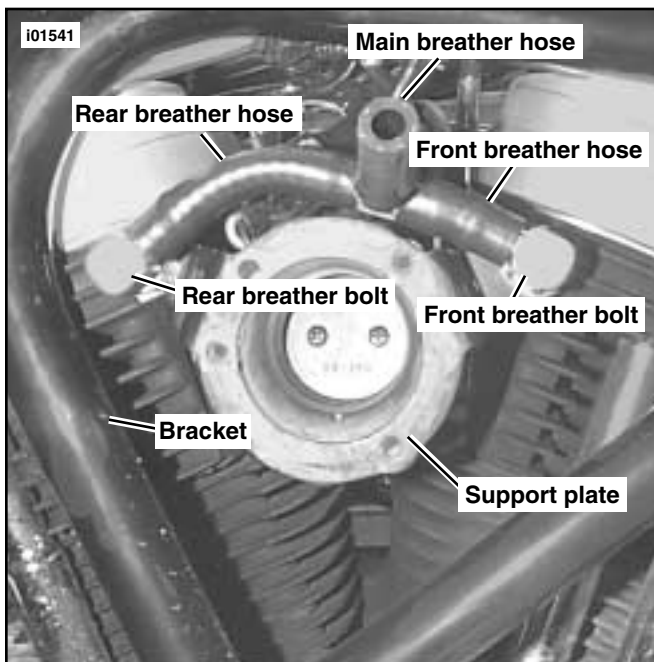

Figure 10. M2 or S3 Race Breather Hose Setup
1. See Figure 10. Install new 90° front breather bolt. Tighten jam nut.